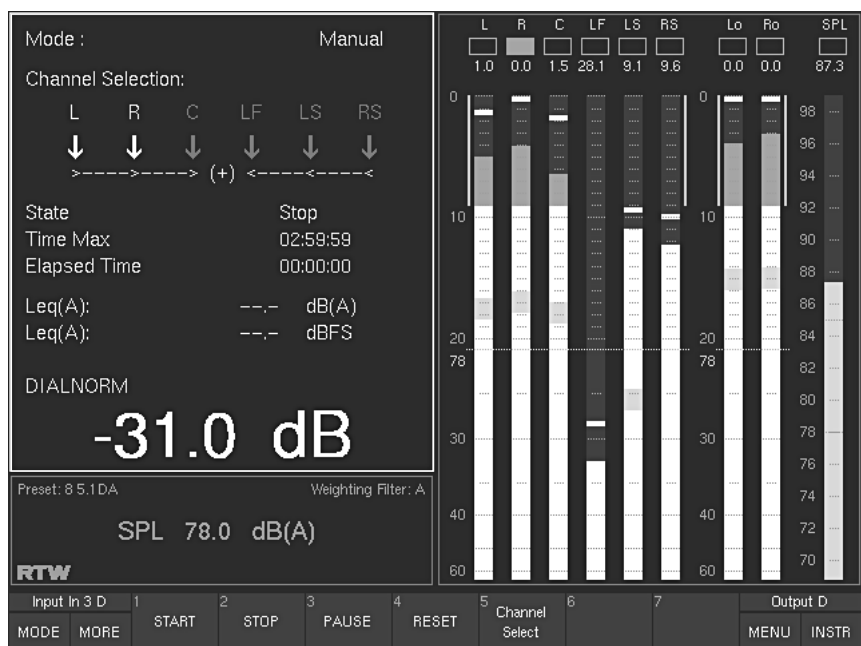

Fig. 3-28: Screen display with DIALNORM instrument selected
(Button/key 1, see Fig. 3-28)
(Button/key 2, see Fig. 3-28)
(Button/key 3, see Fig. 3-28)
(Button/key 4, see Fig. 3-28)
(Button/key 5, see Fig. 3-28)